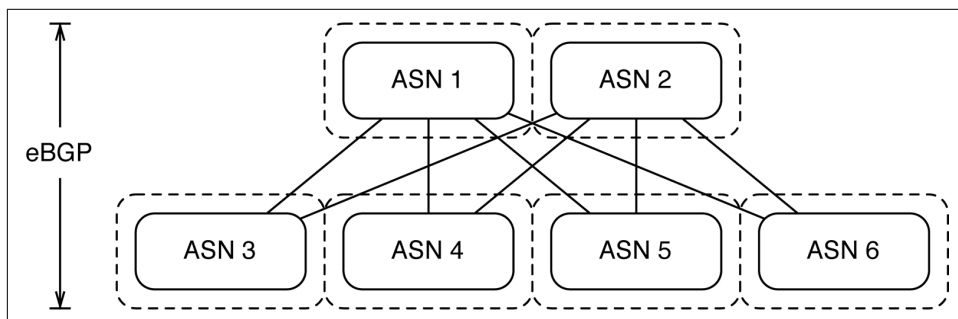

Figure 7-6. Using eBGP in an IP Fabric
Let's take a closer look at the eBGP design in an IP Fabric. Each switch represents a different autonomous system (AS) number and each leaf must peer with every other spine in the IP Fabric, as illustrated in **Figure 7-6**.